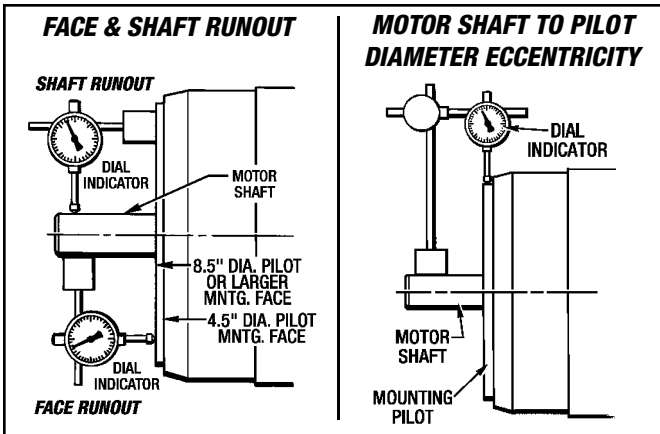

Figure 3.3 - Verifying Motor Specifications
The **Motor Manufacturer's Specifications** must be verified first to ensure the Motor Brake Oil Seal Reliability. (1) **Motor Shaft Runout**, (2) **Mounting Face Runout** and (3) **Motor Shaft to Pilot Diameter Eccentricity** need to be checked with a Dial Indicator as shown in *Figure 3.3*.